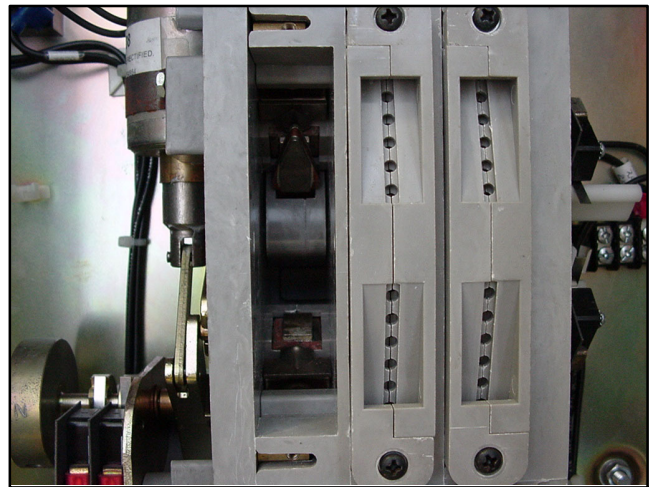

Figure 7-52 Movable Contacts (arc chute removed)
7. Inspect the movable contact for damage. See Figure 7-52. If damage is found, order a replacement contactor and continue to Step 8.